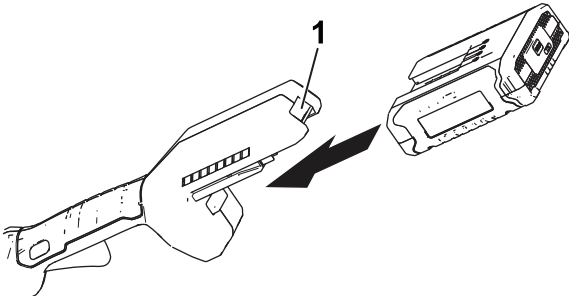

Figure 5
4. Slide the battery pack into the tool until the battery locks into the latch (Figure 5).